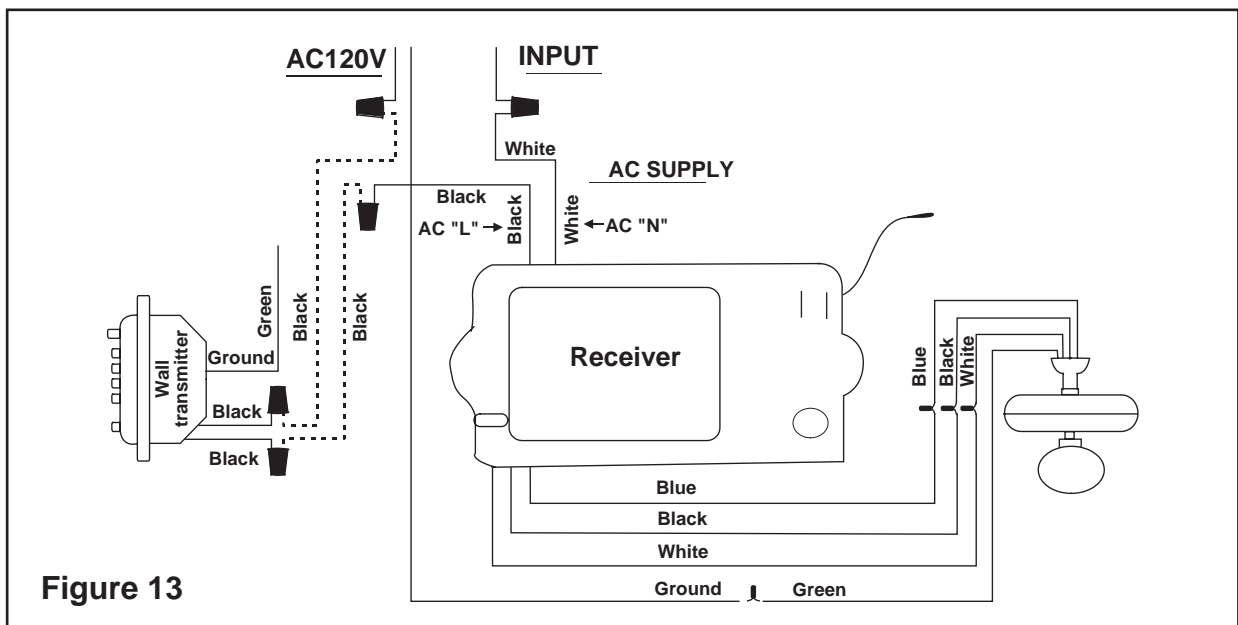

Figure 13
Step 2. Make the electrical connections as shown in (Fig. 13). If your outlet box has a ground wire (green or bare copper) connect the wall transmitter's ground wire to it; otherwise connect the wall transmitter's ground wire directly to one of the screws from the outlet box.